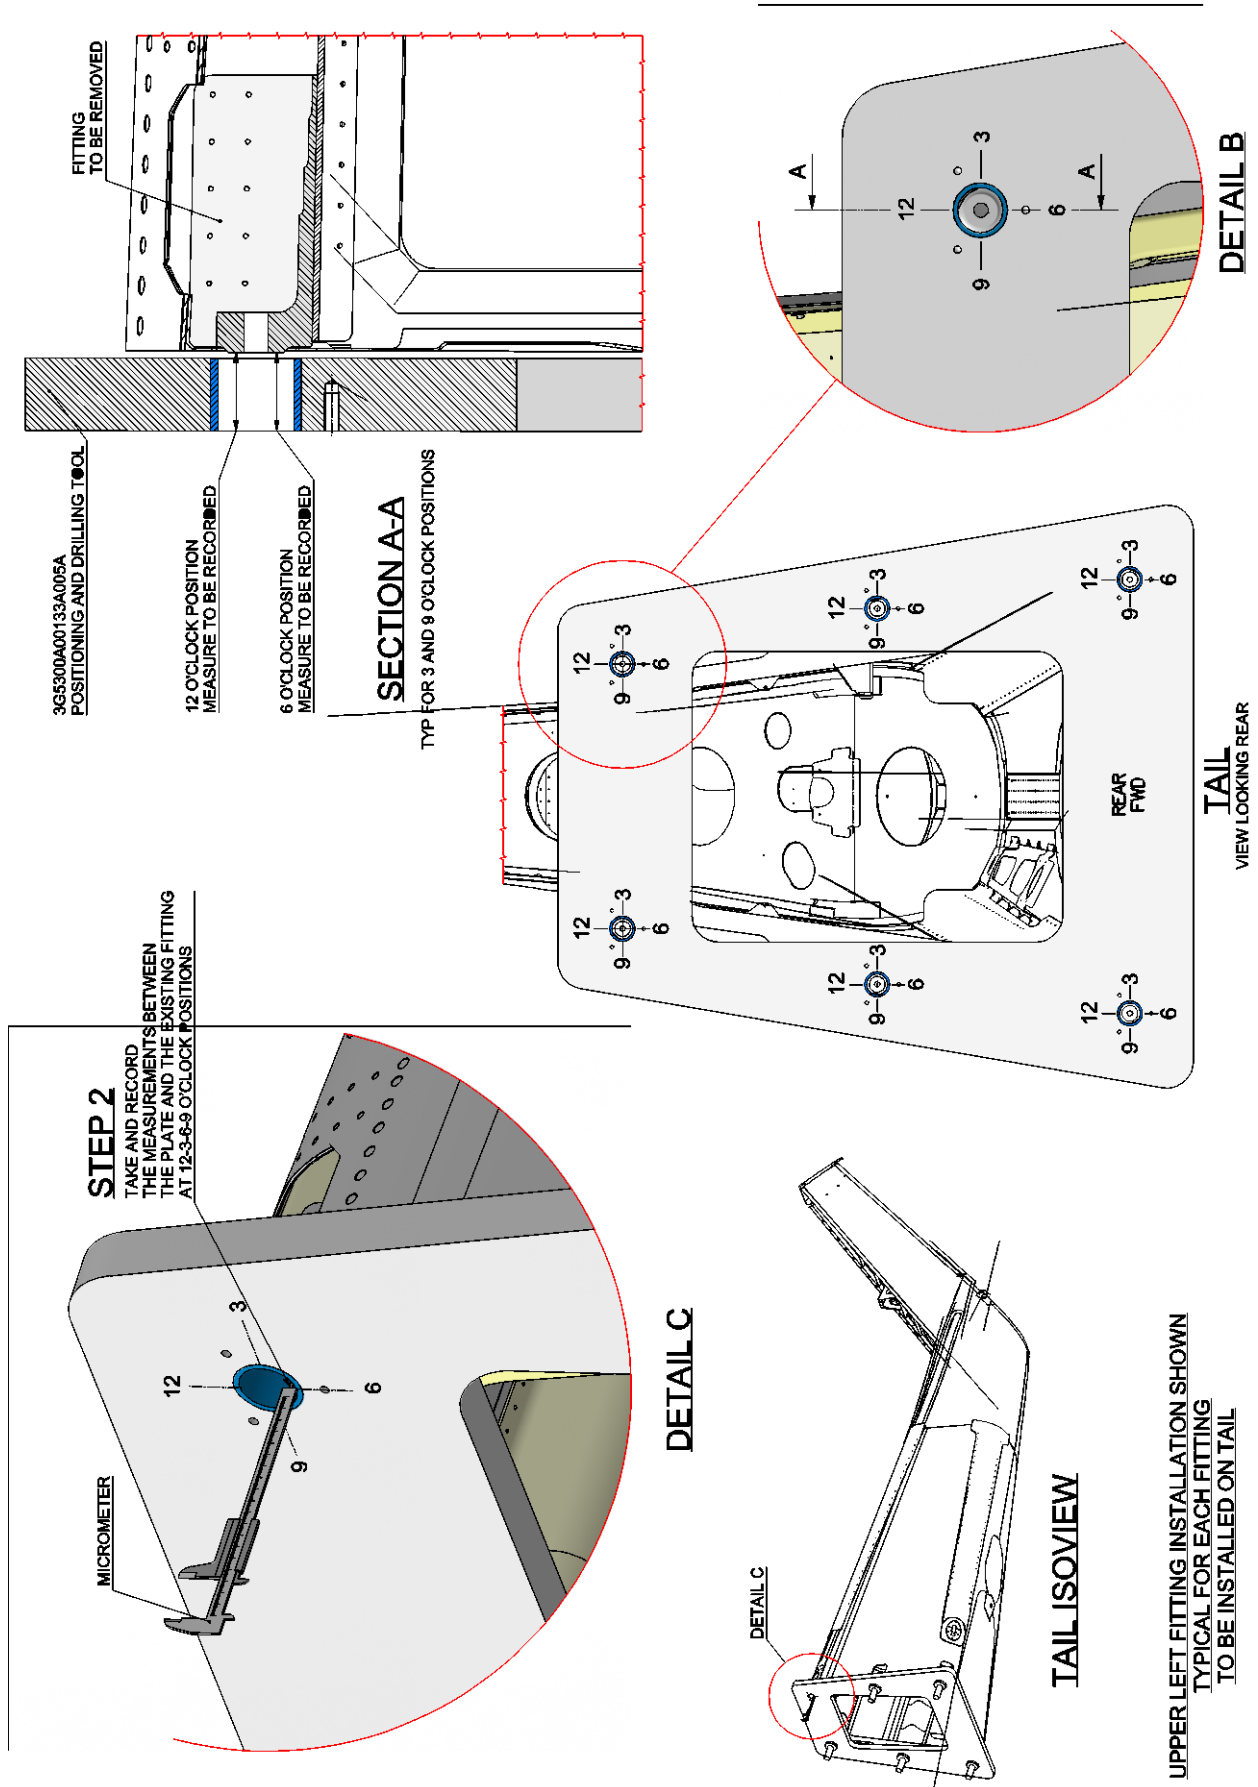

Figure A3
2. With reference to Figure A3, measure the distance between the plate and the fitting-boss in the n°4 indicated positions. Record the measures in the relevant table of Figure A10.